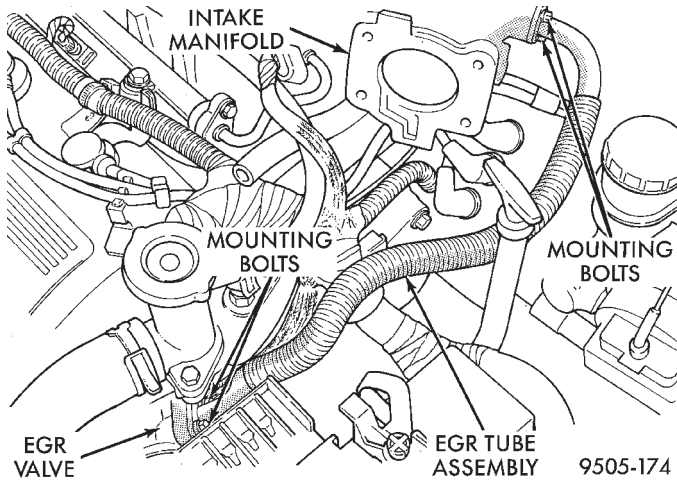

Fig. 69 EGR Tube Attachment To Intake Manifold And EGR Valve
(6) Remove the EGR tube (Fig. 69) from the intake manifold and EGR valve.
- (13) Install the EGR tube with **NEW** gaskets on the intake manifold and EGR valve (Fig. 69). Install the 4 mounting bolts and tighten to a torque of 11 N·m (95 in. lbs.).